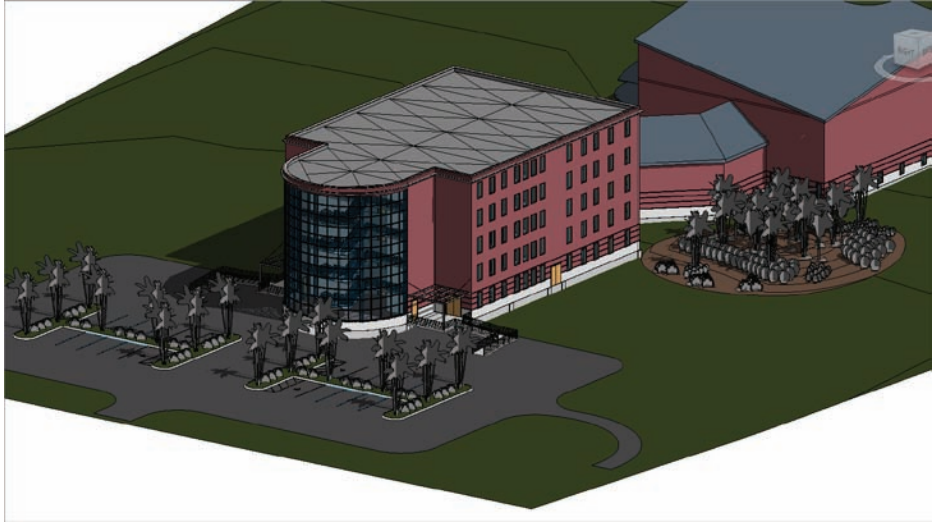

FIGURE 18.18 Adding the plantings
6. Go to a 3D view, and check it out as shown in Figure 18.18.